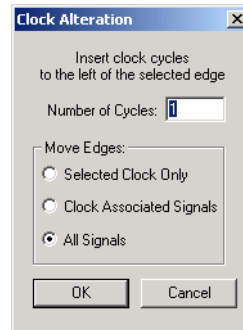

Figure 8-10. Inserting Clock Cycles
2. **From the Edit menu, click *Insert Clock Cycles* or *Delete Clock Cycles*.** These functions are active only when a clock edge is selected. This opens the Clock Alteration dialog, as shown in Figure 8-10.